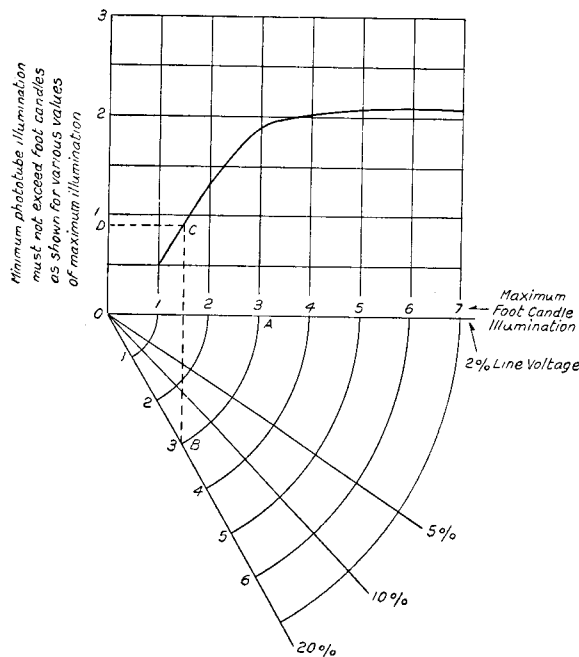
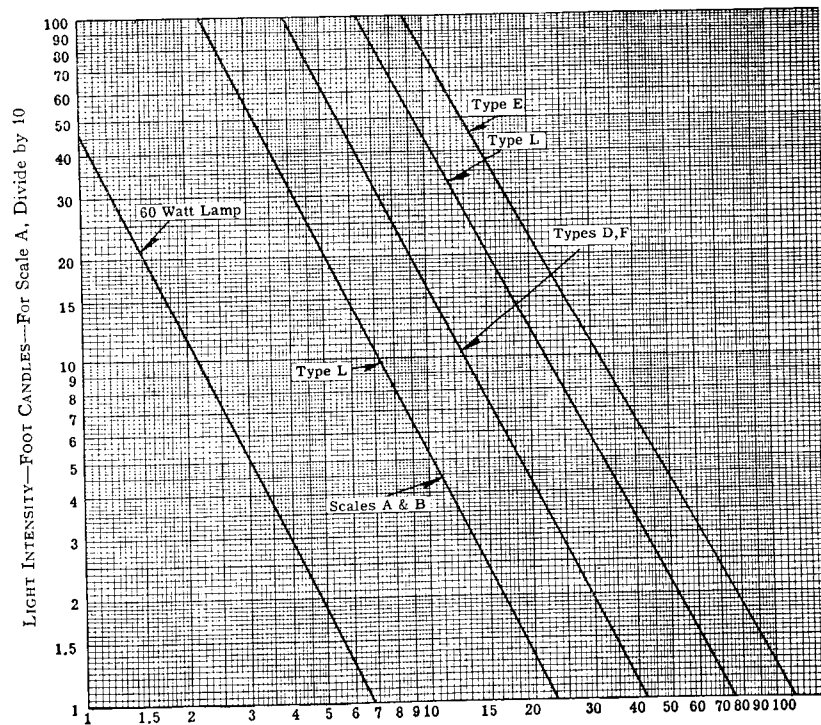
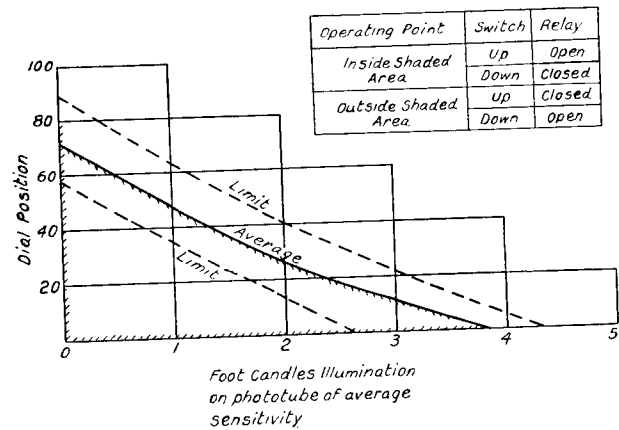

FIG. 1—CURVE SHOWING HOW MUCH THE PHOTOTUBE ILLUMINATION MUST BE DECREASED FOR VARIOUS VALUES OF A-C. LINE VOLTAGE VARIATION
FIG. 2—DISTANCE—FEET
FIG. 4—CURVES SHOWING DIAL POSITION AS A FUNCTION OF PHOTOTUBE ILLUMINATION
(4) Various light sources except the type L, can be used with the type RX-1 phototroller. In selecting the light source care must be taken that the minimum illumination on the phototube must not exceed the values given in Fig. 1.
basic 2 per cent curve, it is seen that if the maximum illumination is 3 foot candles, the minimum illumination must not exceed 1.9 foot candles. If, however, the maximum line voltage variation is 20 per cent and the maximum illumination is 3 foot candles at maximum a-c voltage, then the minimum illumination 0.9 foot candles is found by following the circle from A to B, then to C and to D. By using the curves in Fig. 1 in combination with the light source curves in Fig. 2, the required percentage reduction in illumination can be determined.
From Fig. 2 is found, 2 footcandles.
From Fig. 1, 2 footcandles at 10 per cent voltage gives 0.8 footcandles. Minimum illumination.
With the phototube dark the relay will operate as shown in Fig. 4, when the dial of the potentiometer is approximately at position 70. With one foot-candle illumination on the phototube the dial position is approximately 45 when the relay operates, and at dial position 0 approximately 4 foot-candles are required to operate the relay. The sensitivity of the photo-troller conservatively rated, is, therefore, 1 foot-candle. Due to this high sensitivity it is preferable to limit the maximum illumination on the phototube to 10 foot-candles in order to obtain long phototube life. To obtain reliable operation the illumination on the phototube when the light intensity is minimum should not exceed the values as indicated in Fig. 1.
The location of the curves vary considerably with varying phototube sensitivity as shown by the upper and lower limit curves in Fig. 4.